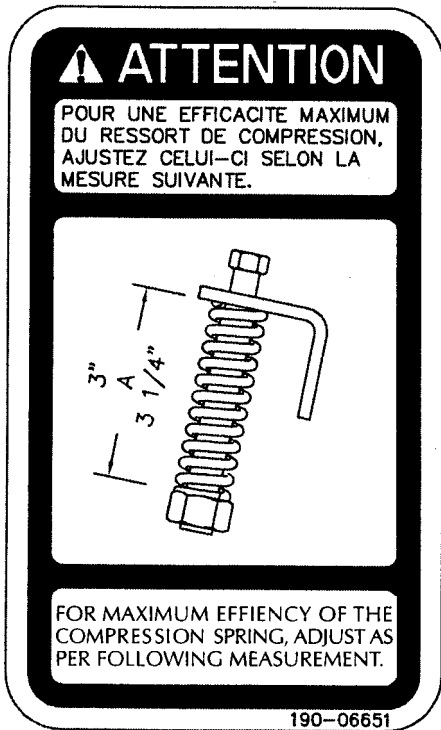

Figure 14
- 3) Check chain take-up adjustment. The spring maintaining the tension must be compressed to a length between 3" and 3 1/4" (Fig. 14).